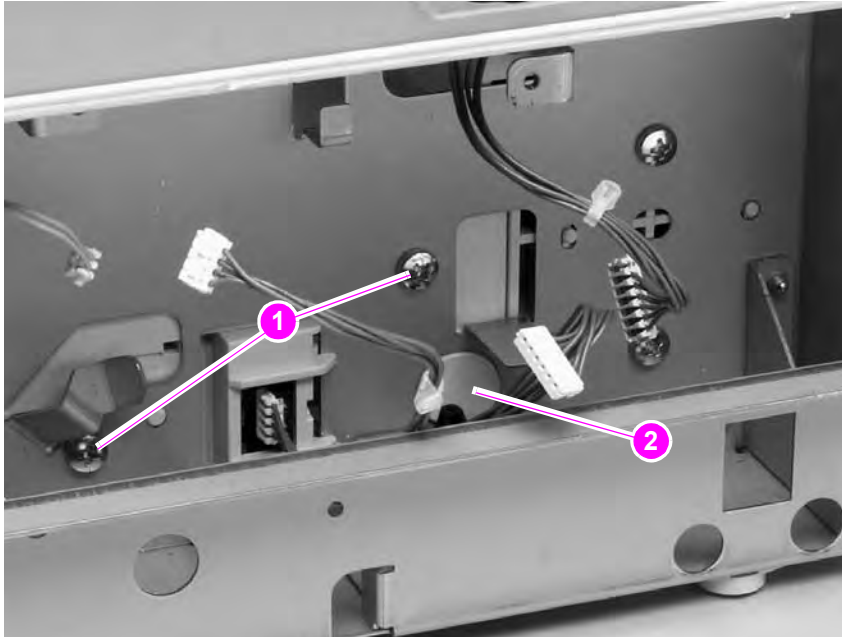

Figure 169. 500-sheet feeder media-size sensor (1 of 2)
3. Push the locking tab (figure 169; callout 2) and slide the sensor toward the front of the feeder to release it. Remove the sensor.